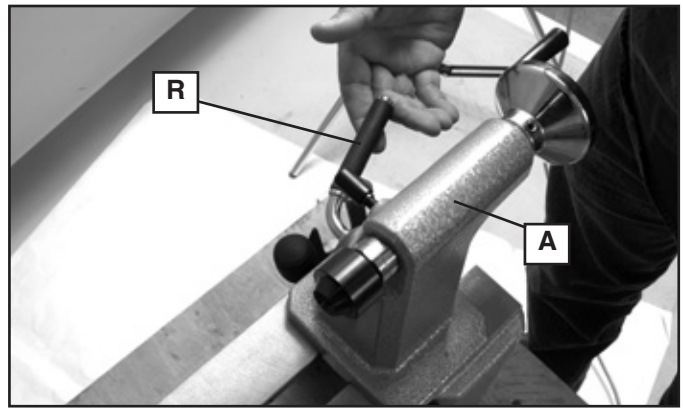
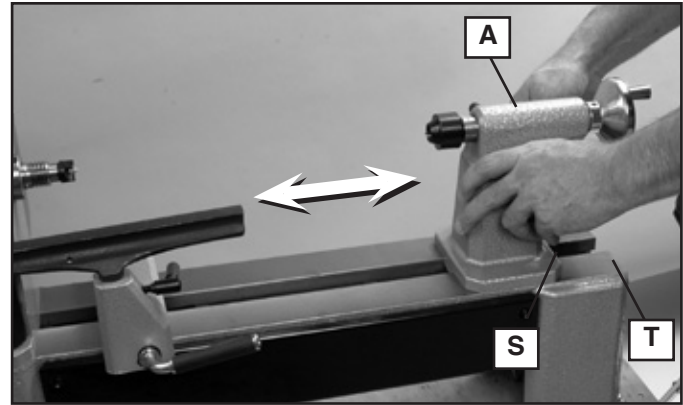

Fig. 10
Fig. 11
To adjust the position of the tailstock (A), loosen tailstock locking lever (R) by lifting. Slide tailstock (A) along the bed (Fig. 11) into the desired location. Tighten tailstock locking lever (R) Fig. 10 by pressing downward to lock in place.
**⚠WARNING:** To reduce the risk of injury, don't position edge of tailstock (S) Fig. 11 beyond the edge of the lathe bed (T).
To remove the tailstock (A) Fig. 10, unlock the tailstock locking lever (R) and slide it off the end of the lathe bed.